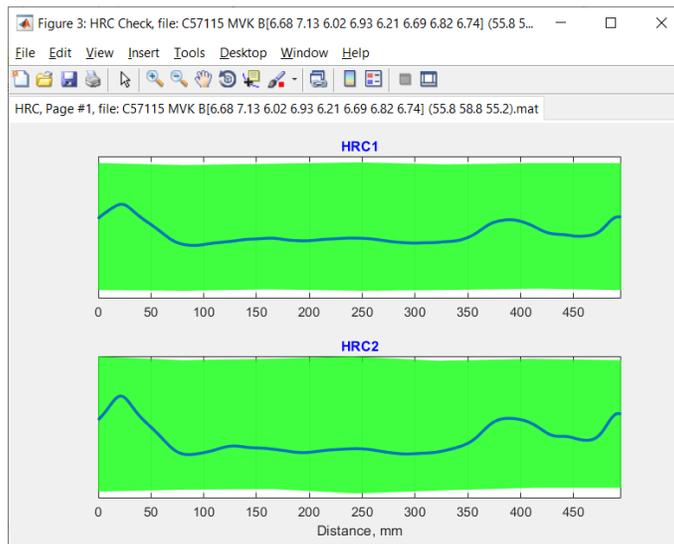

Figure 112. Good Part Demonstrating Optimal Surface Hardness (57-59 HRC).
- **Example 2:** Showcases a good part with an optimal surface hardness level, situated in the desirable range of 57-59 HRC, reflecting high-quality material properties. (Figure 112)